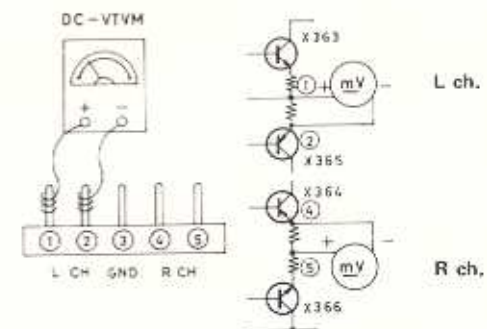

Fig. 20B
4. Connect ground lead of DC VTVM to pin 1 (pin 5) and connect probe of DC VTVM to pin 2 (pin 4). Refer to Fig. 20B.